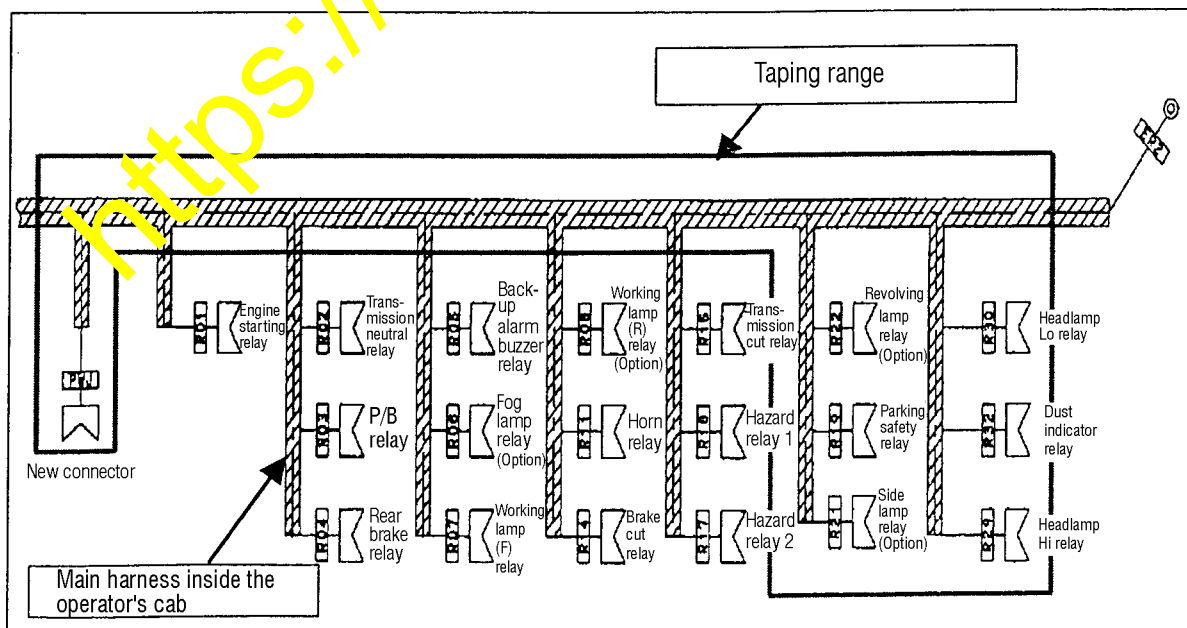

Fig. 9
- (ii) Apply insulation taping to the excess leads which became excessive by the above change of the relay layout and to the leads separated as per the above Section 4-3A(2). (Tape No. 60024-91920) (Refer to Fig. 9)